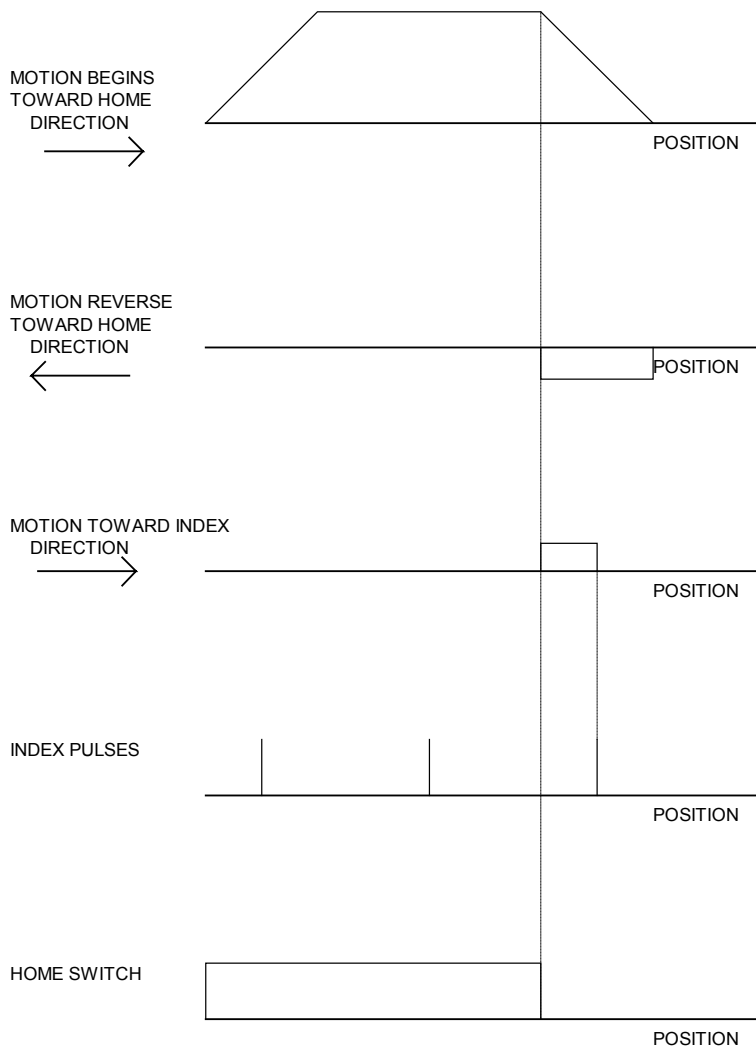

Figure 6.7 - Motion intervals in the Home sequence
The Find Edge (FE) instruction is useful for initializing the motor to a home switch. The home switch is connected to the Homing Input. When the Find Edge command and Begin is used, the motor will accelerate up to the slow speed and slow until a transition is detected on the Homing line. The motor will then decelerate to a stop. A high deceleration value must be input before the find edge command is issued for the motor to decelerate rapidly after sensing the home switch. The velocity profile generated is shown in Fig. 6.7.